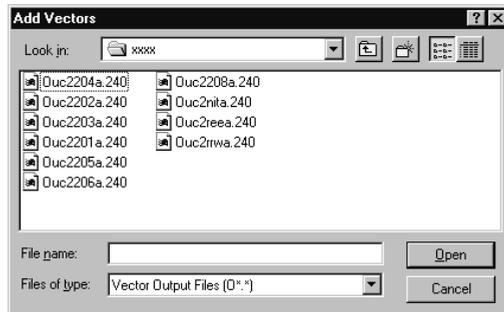

Figure 4.9. Add Vectors Dialog Box
1. Select **Add Processed Vectors** from the **Project** menu. The **Add Vectors** dialog box opens (Figure 4.9):